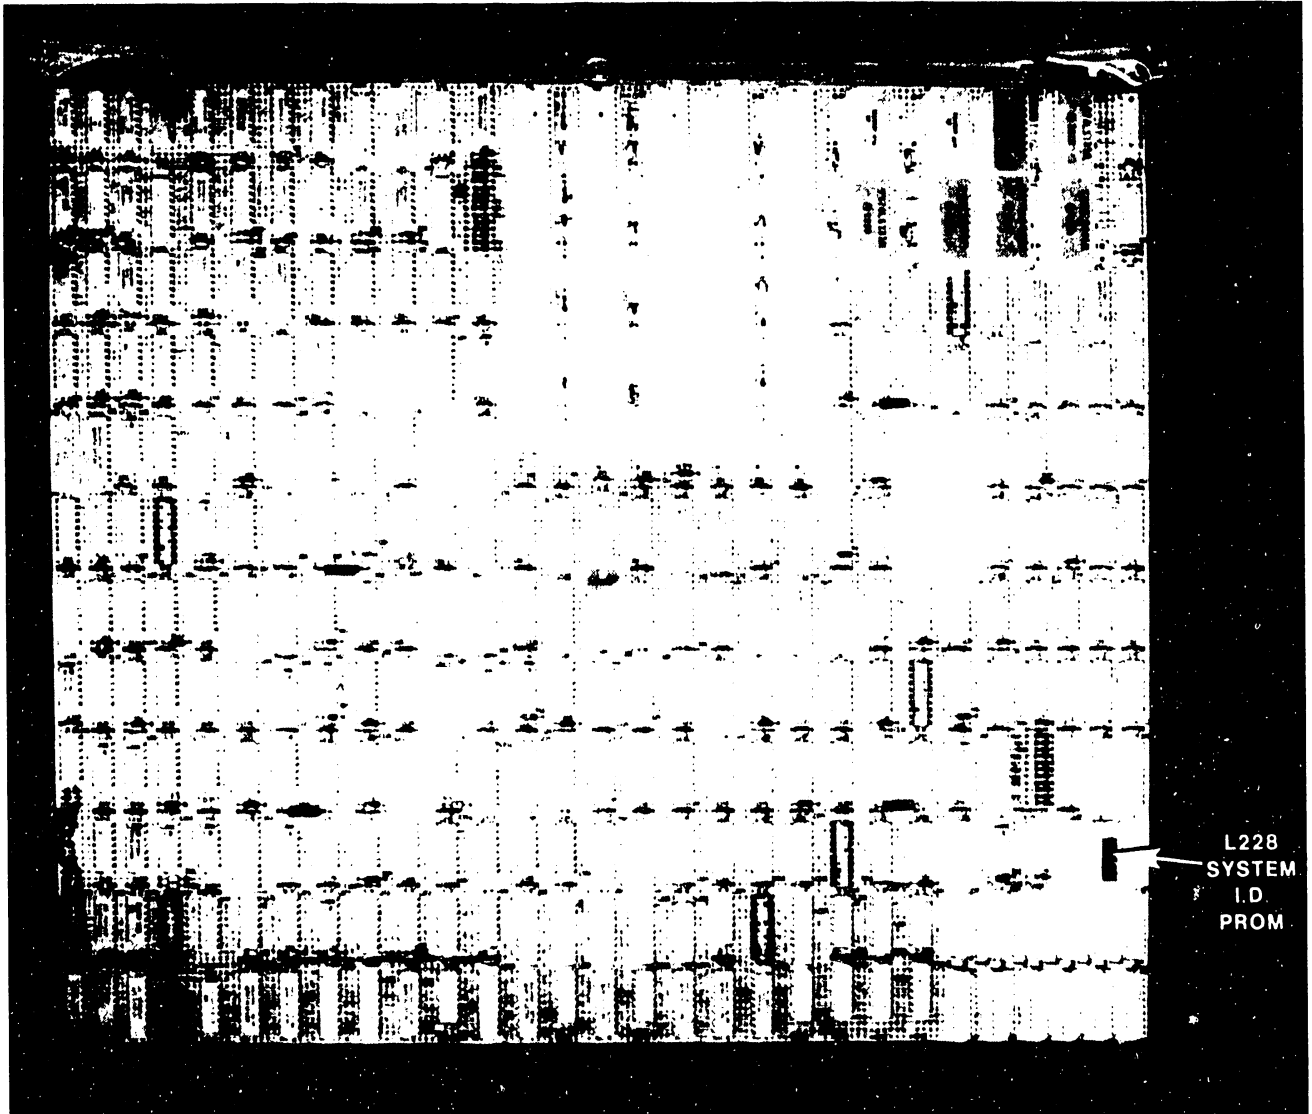

Figure 5-5. 210-8303 CPU Board
1. Remove the CPU board (figure 5-5) from Motherboard slot #2 as described in 5.3.4.3.1. (Be careful the snaplock tabs don't damage the two top corner chips on the CPU.) If the CPU board is to be replaced, the System Identification PROM at location L228 must be removed for reinstallation on the new CPU board.